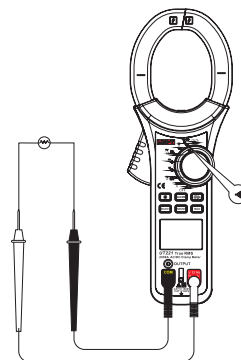

Figure 7
5. Continuity test (••) (See Figure 7)